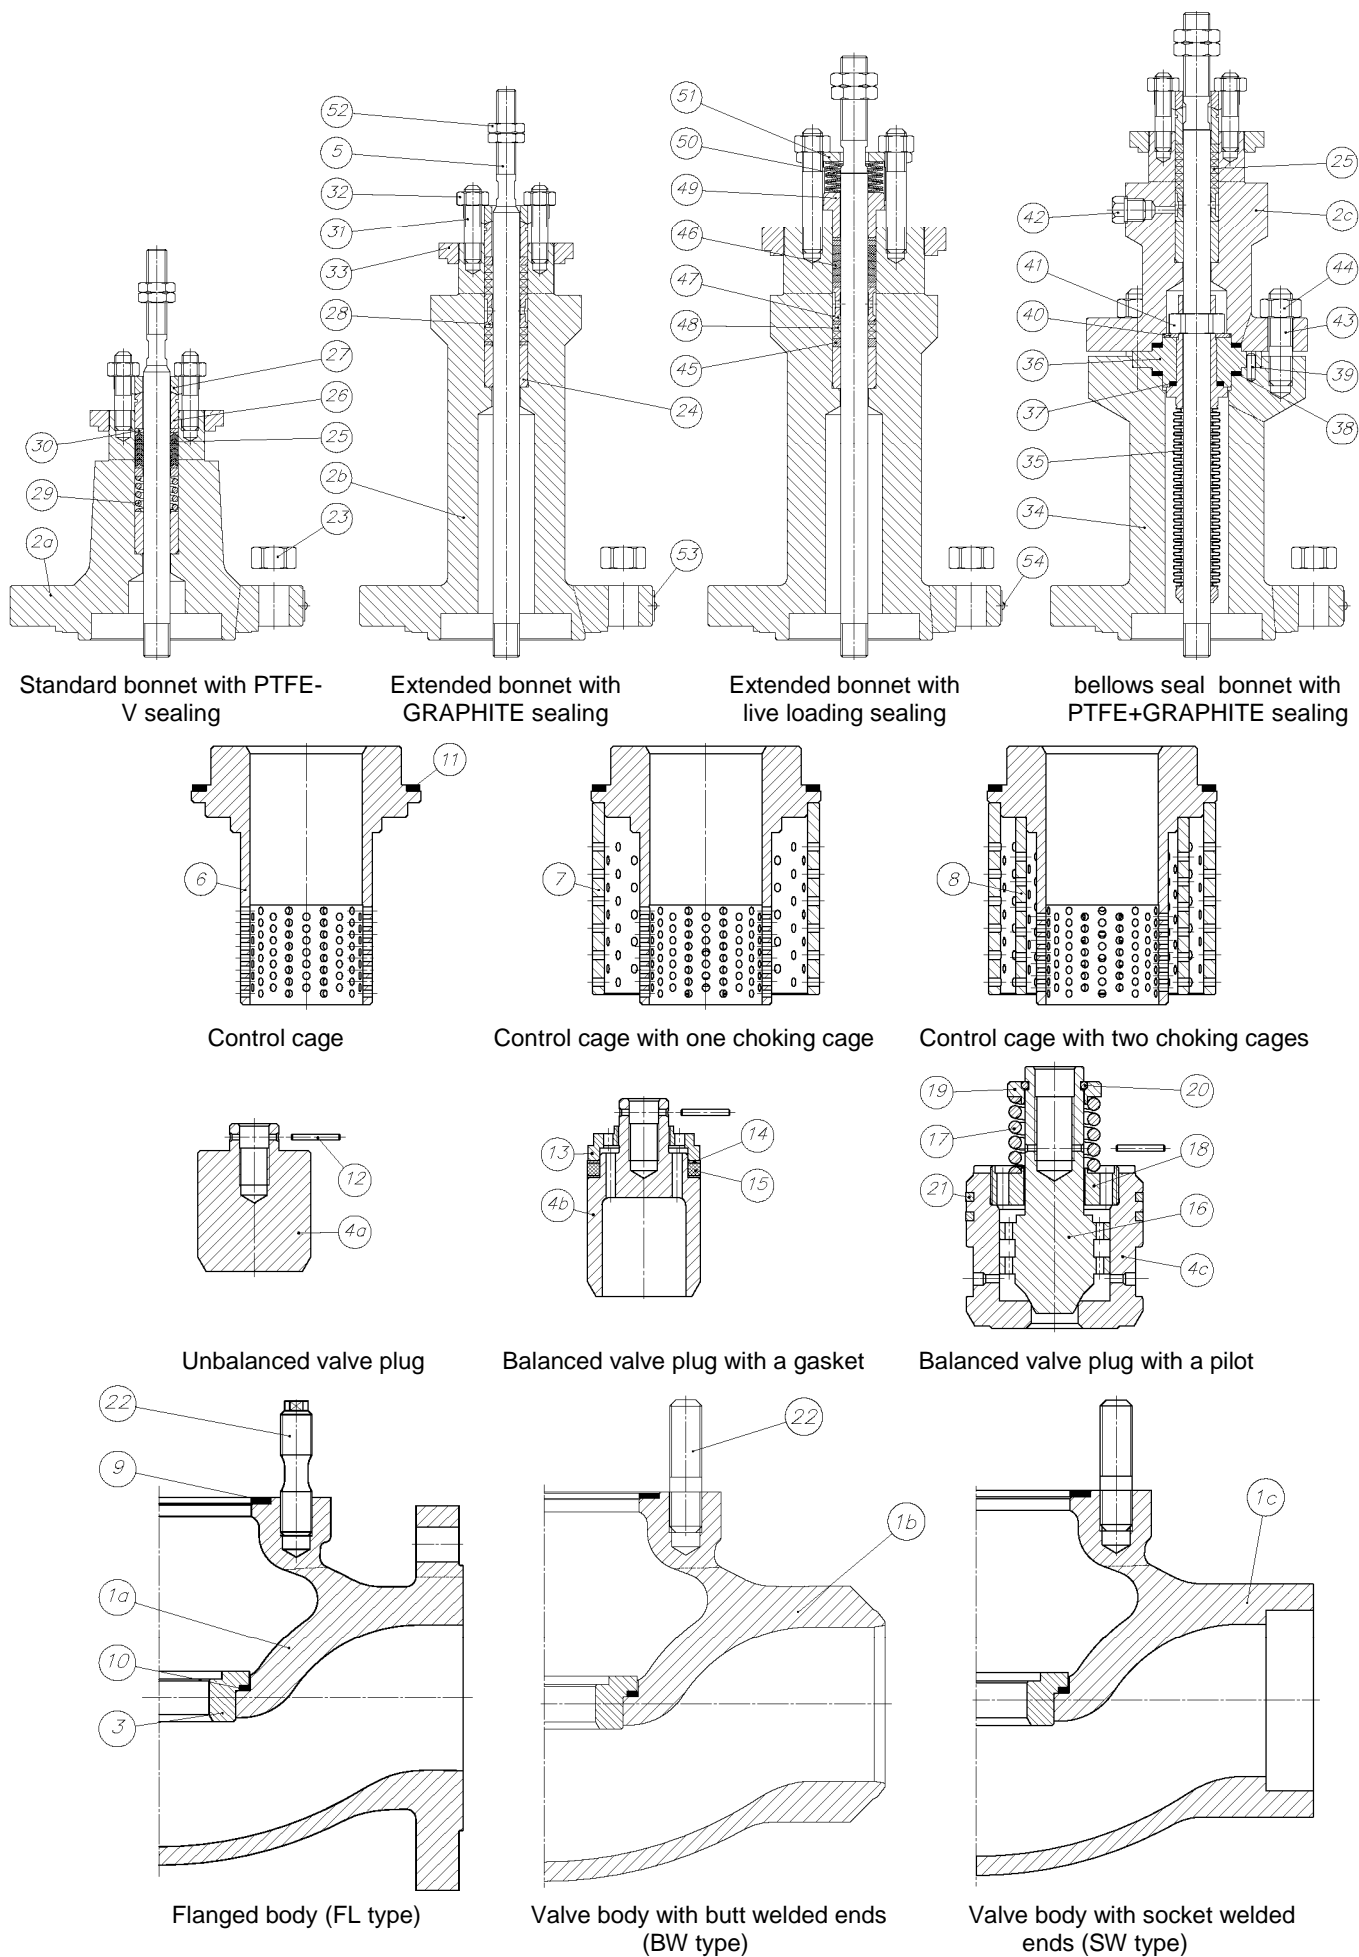

Fig. 1. Z1B type control valve - internal components
The basic components of a Z1B type control valve include: body (1a, 1b), bonnet (2a, 2b, 2c), seat (3), valve plug (4a, 4b, 4c), control cage (6), plug stem (5) and valve plug stem sealing (25). Marking and names of components are presented in Figure 1 and Table 1.
No. in Figure 1	Component name